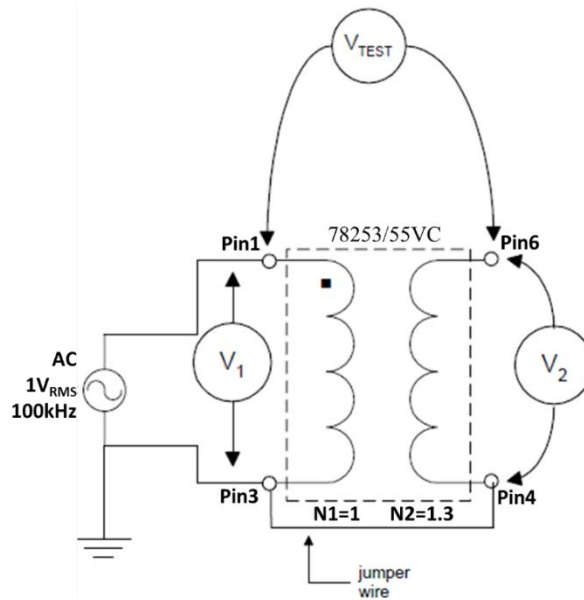

Figure 5-5 Circuit for polarity test
2. For the circuit shown in Figure 5-5, determine the theoretical values of the secondary voltage V_2 and V_{Test} , assuming the dot for the secondary is on pin 6. Record the results in Table 5-2.
1. Construct the circuit shown in Figure 5-5. **Caution:** Do not make changes in the circuit without first making sure the function generator output is switched off.